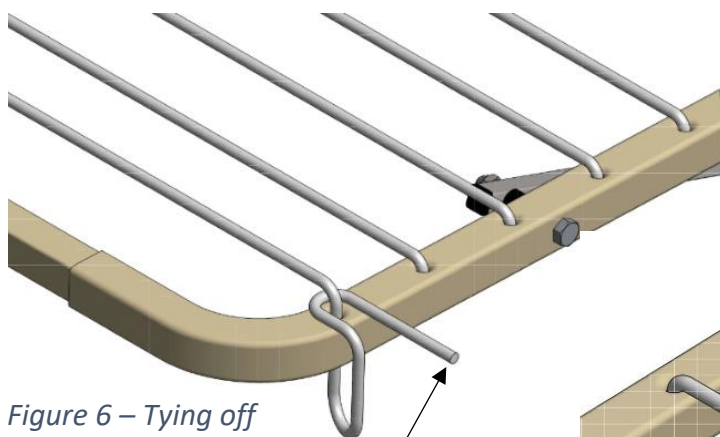
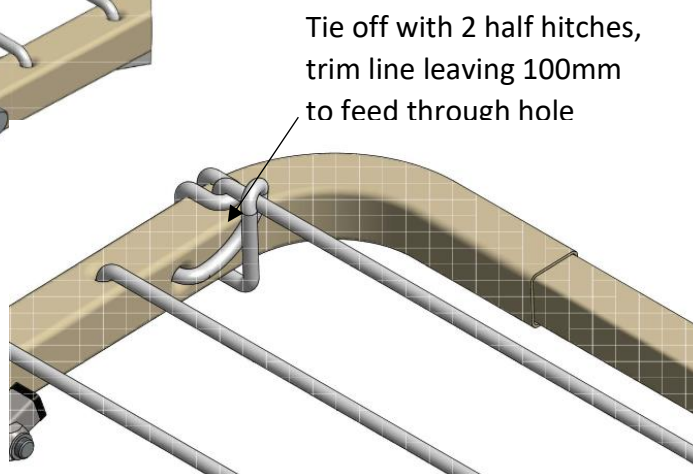

Figure 6 – Tying off
Figure 7 – Tying off
- Tie off as shown in the Figs 6 and 7.
- Tie the loose end as shown in Figs 6 and 7. Trim the ends of the cord, leaving 100mm to be fed through the hole as shown in Fig 7.